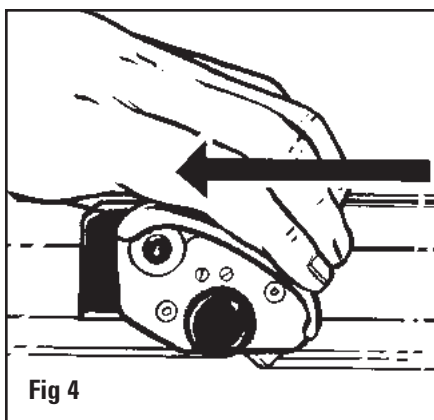

Fig 4
4. Holding the blade holder as shown in Fig 4, pull the cutting head directly towards yourself until the mat board is completely cut.
6. Rotate the bevel blade holder down completely to seat the blade into the mat. **TIP:** Hold the cutting head firmly enough to not allow it to "creep forward" when first inserting the blade which will produce an overcut. **Fig 4**